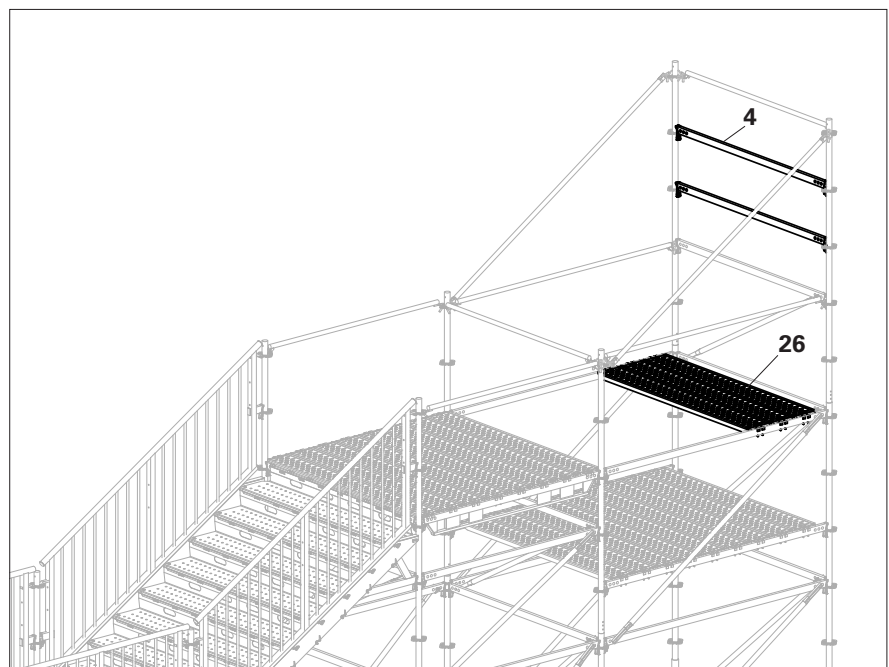

Fig. C1.21
4. Fit 3 x Steel Deck UDG-2 25x200 (**26**). (Fig. C1.21)